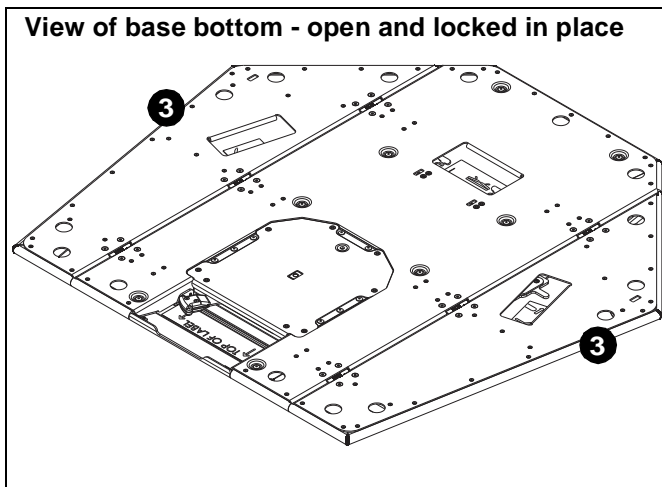

Figure 2
1. Determine location for PRSU stand, and place base (A) on floor with folded ends on top. (See Figure 2)
3. When the base sides are extended to the open position they will lock in place. (See Figure 2)